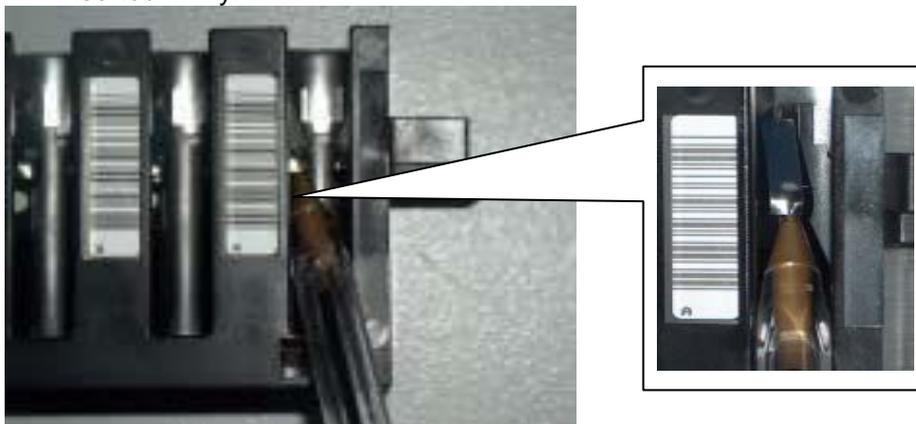

Figure 15.3-1 Adjust the Metal Dome Inside the Slot
1. Take a ball-point pen; insert its tip below the retainer of metal plate inside the sample rack slot, as shown in Fig. 15.3-1; then, apply gentle force to make the retainer upwarp;